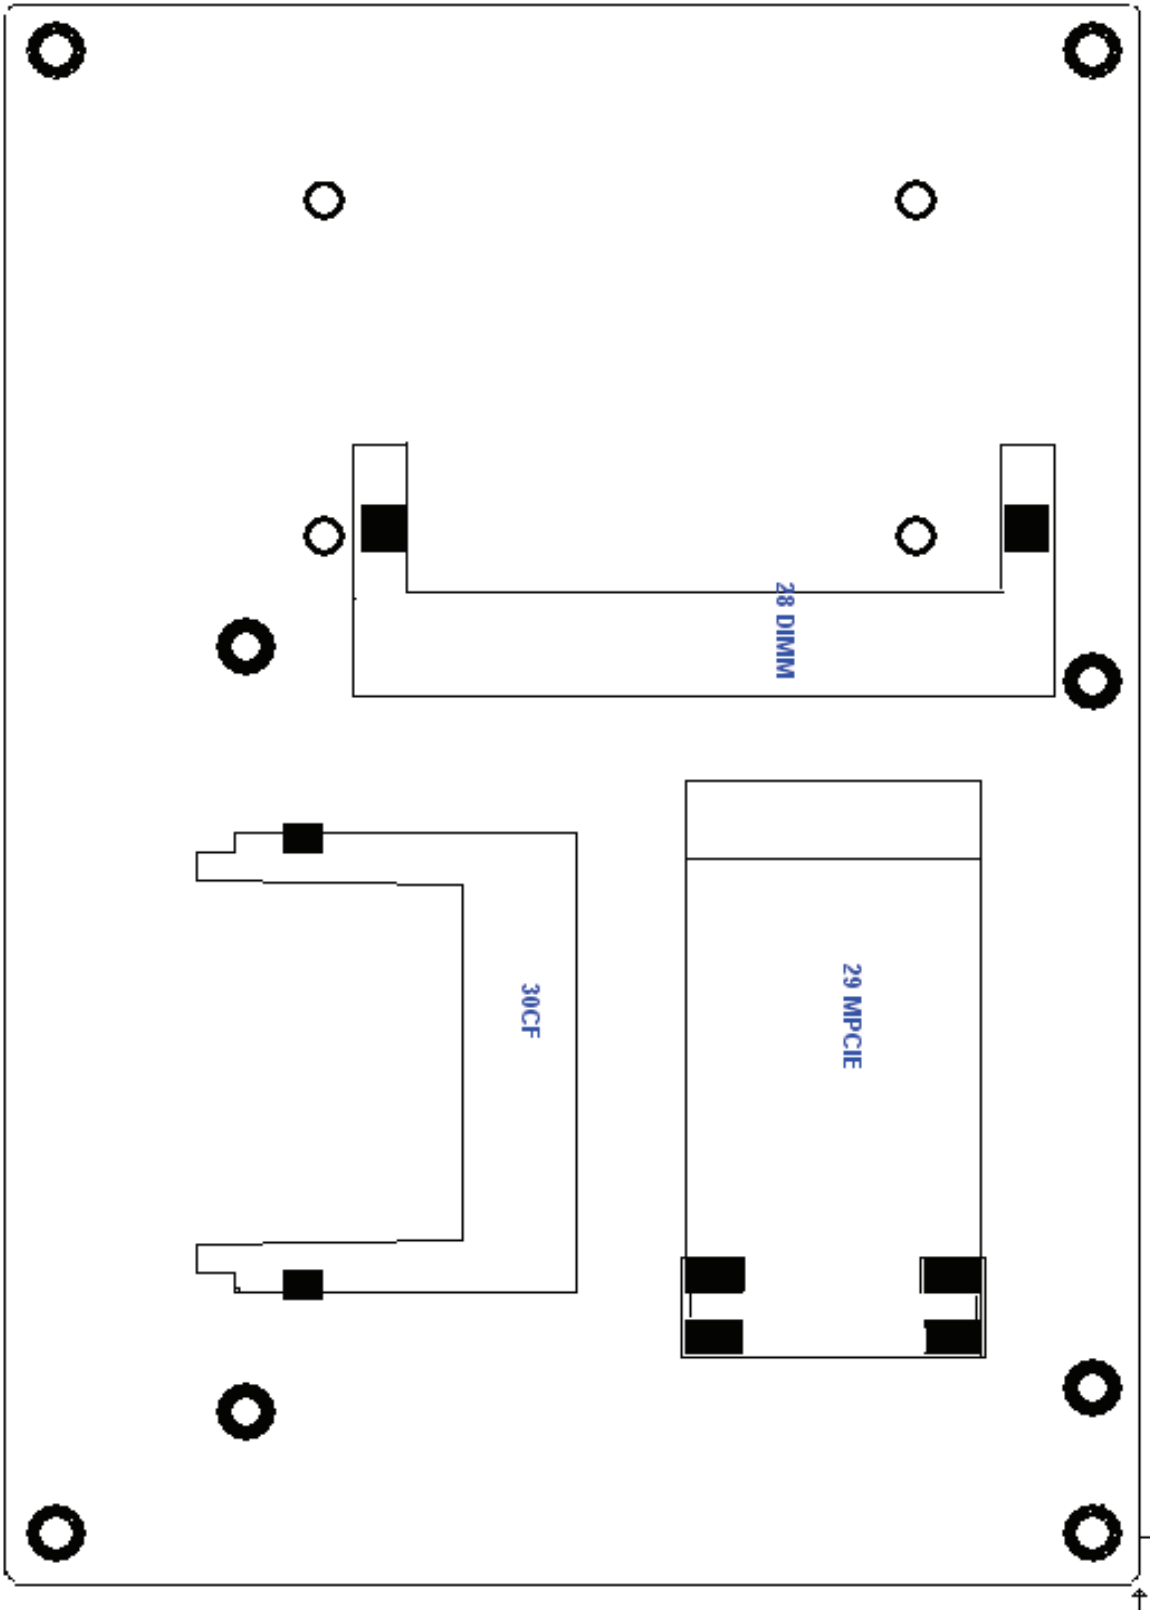

Figure 2.3: Connector and Jumper Locations
**Insert the SO-DIMM.** Push the SO-DIMM chip into the socket at an angle. (See **Figure 2.3**)